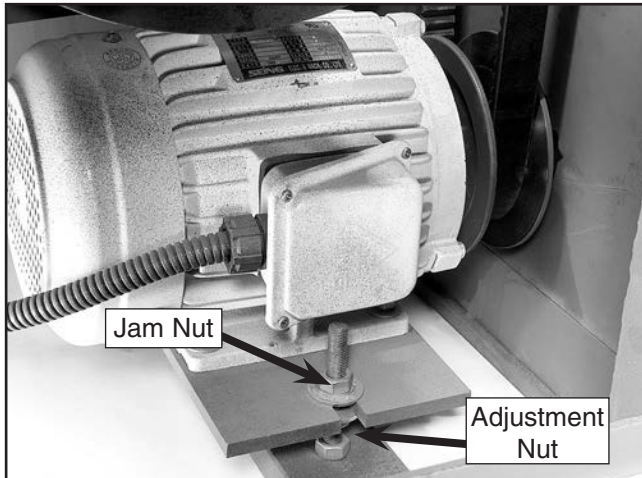

Figure 38. Feed motor V-belt adjustment.
3. Loosen the jam nut (**Figure 38**).